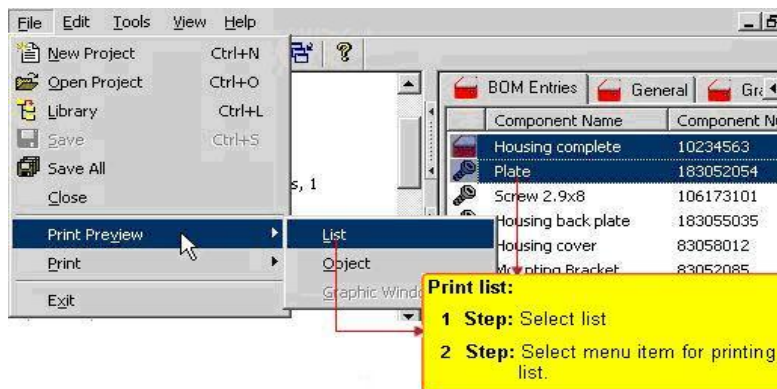

Figure 5: Printing a List
- 1) Select a list entry with the left mouse button in the left window (object list) or in Finder. Please refer to the Figure 5. The **Print Preview** or **Print** functions for printing lists under the **File** menu appears. If no list entry is enabled, the menu items appears grey and you cannot print out any lists.